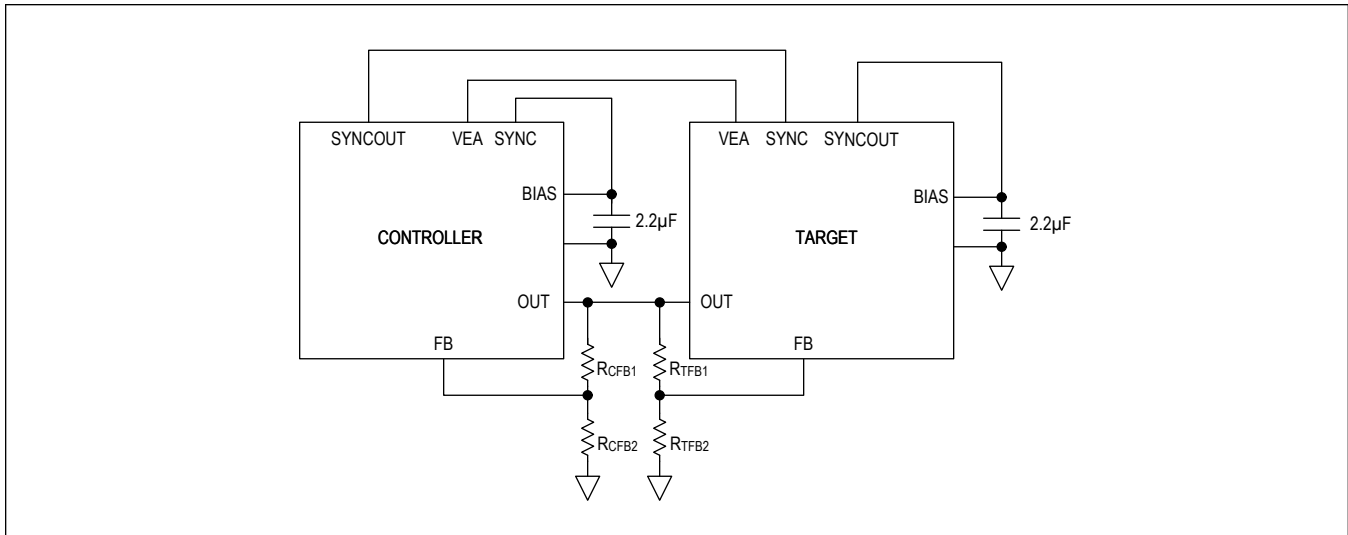

Figure 1. Typical Application Circuit for Dual-Phase Configuration with External Resistor-Divider
To set the output voltage to a value other than the available fixed V_{OUT} options, connect a resistor-divider between OUT, FB, and GND as shown in Figure 1. Use an identical but separate resistor-divider for controller and target.
3. Place the bootstrap capacitor CBST close to the IC. Use short and wide traces from BST and LX, and minimize this routing parasitic impedance. High parasitic impedance from BST to LX impacts the switching speed, further increases switching losses, and high dV/dt noise. See Figure 1 for BST to LX routing.